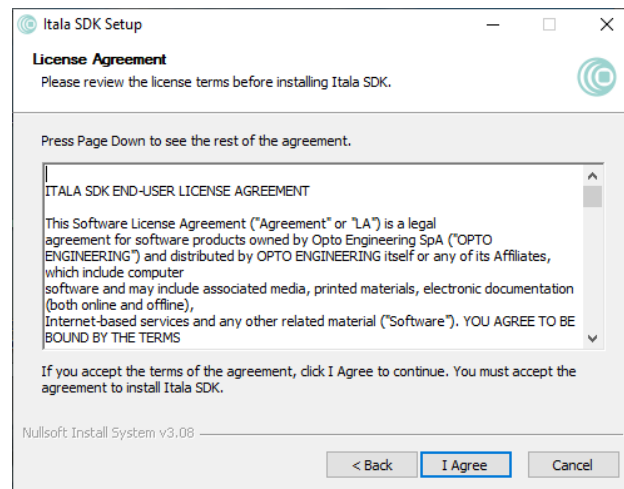

Figure 9: Itala SDK licence agreement window.
3. Check the licence terms before installing Itala SDK (Fig.9).